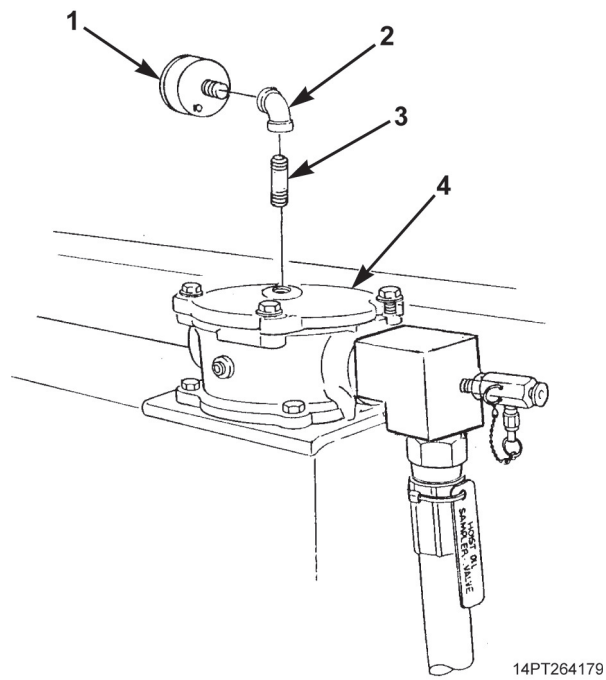

Figure 2. Hydraulic Oil Filter Service Indicator Gauge Installation.
1. Apply antiseizing tape to pipe threads of nipple (Figure 2, Item 3) and install nipple and elbow (Figure 2, Item 2) on filter housing cover (Figure 2, Item 4).
2. Install gauge (Figure 2, Item 1) on elbow (Figure 2, Item 2).